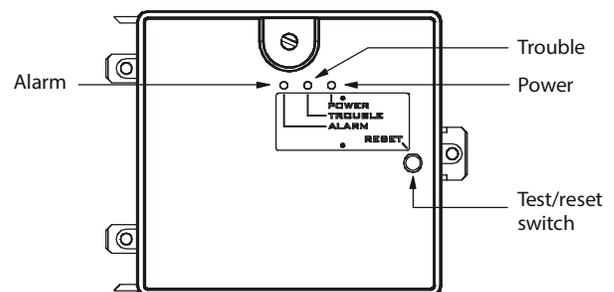

Fig. 43 – Controller Assembly
- The contacts on the controller's supervisory relay switch positions. (See Fig. 43.)